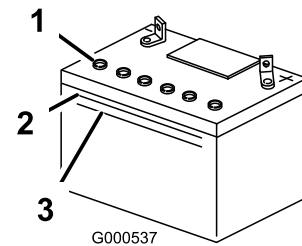

Figure 43
- Look at the side of the battery. The electrolyte must be up to the Upper line (Figure 43). Do not allow the electrolyte to fall below the Lower line (Figure 43).
- Remove the vent caps from the battery (Figure 43).
- Slowly pour distilled water into each battery cell until the electrolyte level is up to the Upper line (Figure 43) on the battery case.
- Wait five to ten minutes after filling the battery cells. Add distilled water, if necessary, until the electrolyte level is up to the Upper line (Figure 43) on the battery case.